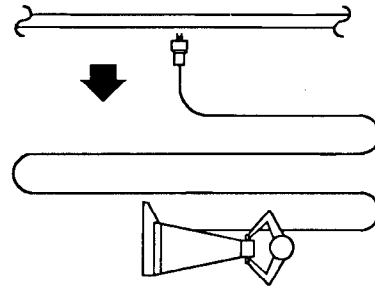

FIG. 6
3. Work away from power cord and receptacle to prevent running over power cord. Use an "S" pattern when cleaning. (Figure 6)